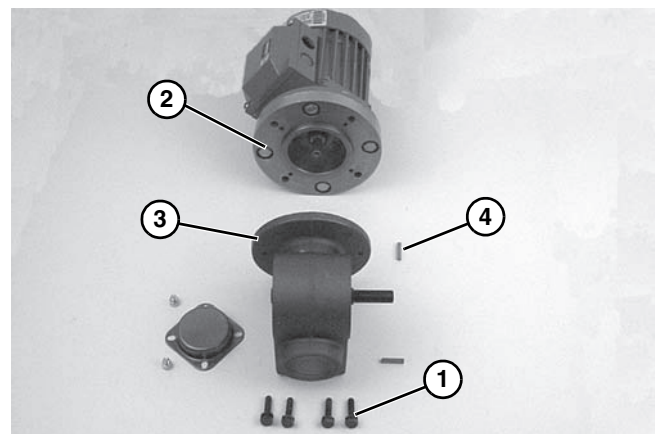

Figure 36
11. With key (**Figure 36, item 4**) in keyway, slide motor (**Figure 36, item 2**) and gear reducer (**Figure 36, item 3**) together. Install bolts (**Figure 36, item 1**) and tighten.